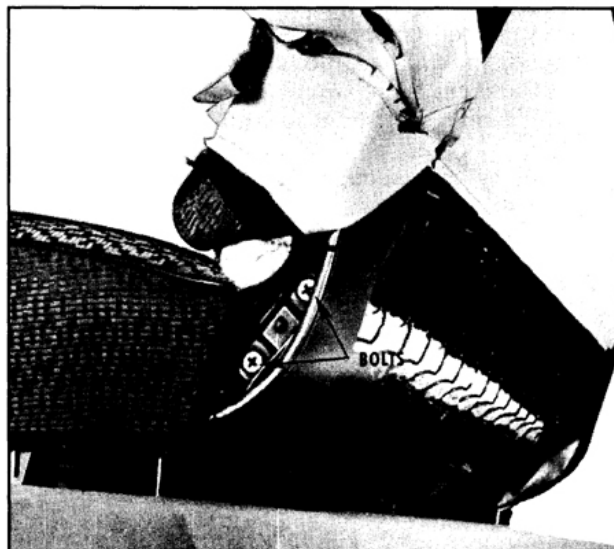

Fig. 16-382 Front Seat Back Attachment
4. At each end of seat, remove hog rings securing lower edge of seat back trim from seat bottom frame; then raise seat back trim to expose bolts securing seat back reinforcement to seat bottom frame. (Fig. 16-382)